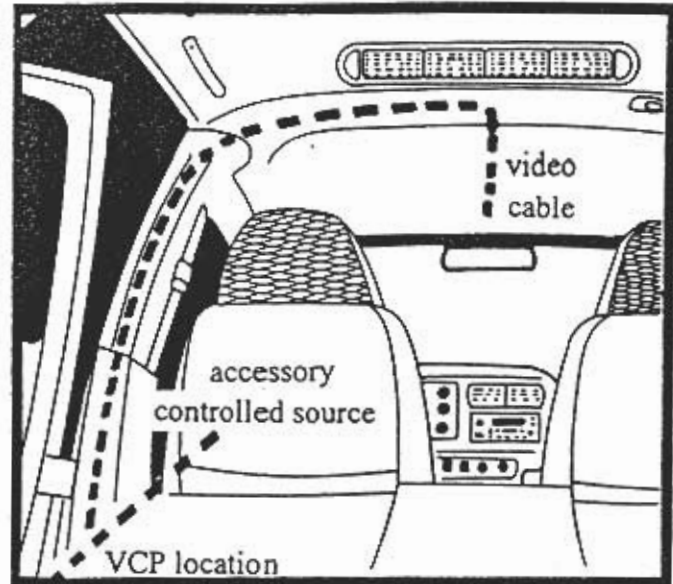

Figure 12
13. Install and route all accessory wiring, video and audio cables, and any other added component requirements to their respective places in the vehicle. Refer to component installation instructions for wiring diagrams. The suggested routing of the video system cable is as follows: Above the headliner from video system to B-pillar. Down the B-pillar to the floor. Route the power lead to an accessory controlled source. Connect the ground lead to the vehicle chassis. Route the remaining wiring (RCA plugs, Remote Sensor extension, etc.) to the VCP location. See figure 12. Connect per instructions included with the video system. If video system is to be used as a television, install an appropriate antenna per instructions included with the antenna.